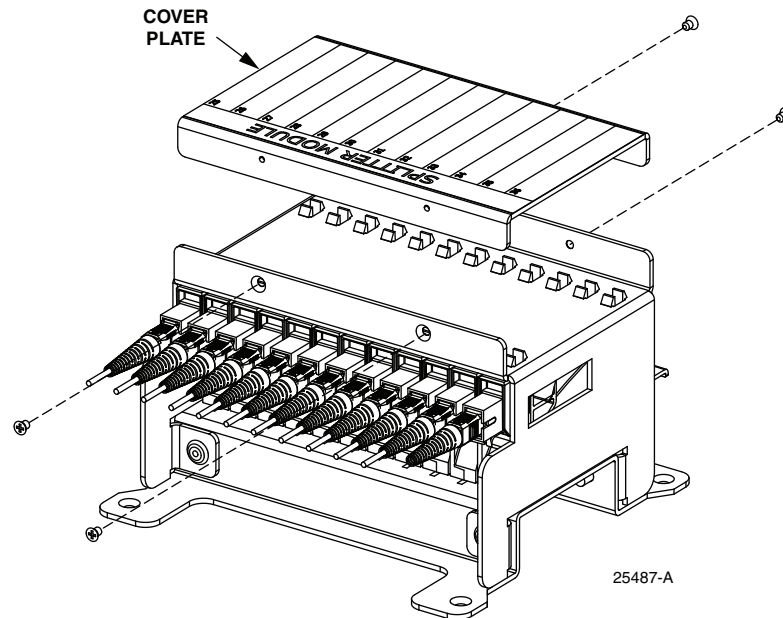

Figure 23. Removing the Cover Plate
4. With a screw driver, remove four upper screws and cover plate as shown in Figure 23.